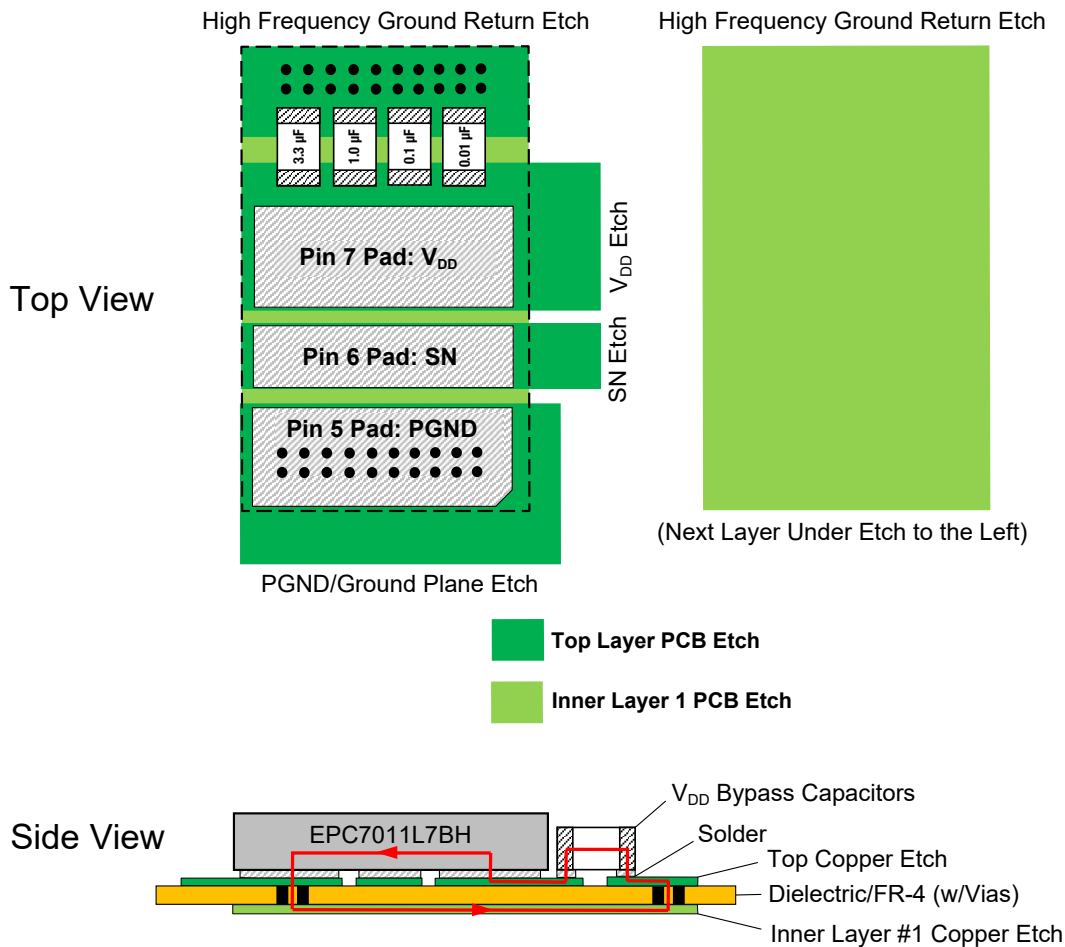

Figure 4. Recommended Optimum V_{DD} -to-PGND Power Supply Bypass Capacitor Layout (Not to Scale)
Because of the extremely high rate-of change of voltage seen at the SN output it is recommended that a minimum of one (1) 3.3 μF microfarad ceramic capacitors, one (1) 1.0 microfarad ceramic capacitor, one (1) 0.1 microfarad ceramic capacitor and one (1) 0.01 microfarad ceramic capacitor, all with sufficient voltage de-rating, be connected from V_{DD} to PGND. All four of these capacitors should be low ESR types, if possible. It is strongly recommended that these capacitors have the smallest possible case sizes possible such that they inscribe the smallest possible loop area between V_{DD} and PGND so as to minimize the inductance related to this loop area. Also, to reduce the inductive loop between V_{DD} and PGND is strongly recommended that an induction loop cancellation layout of the high frequency power supply capacitors be employed. Figure 4 illustrates the recommended optimum layout and placement for the V_{DD} -PGND high-frequency bypass capacitors.
It should be noted that in Figure 4 that the light green copper etch area on the PCB's inner layer #1 is positioned directly beneath the copper etch clad on the top layer, as indicated by the dashed line.
The requirements of each PCB implementation of the EPC7011L7BH may not allow the recommended optimum layout shown in Figure 4 to be implemented, but care should be taken to keep the recommended layout as physically and mechanically close to it as possible.